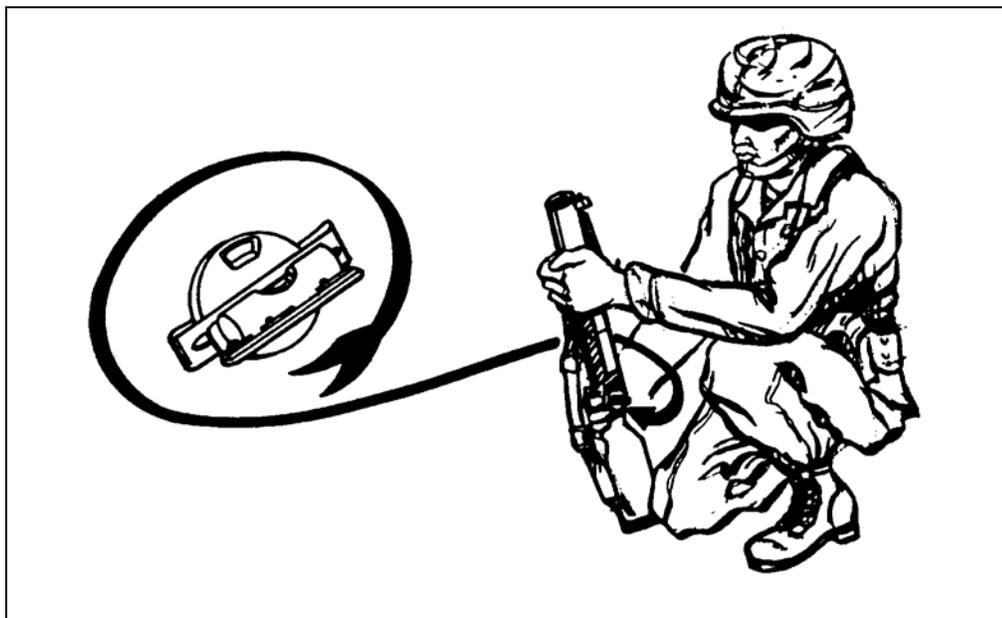

Figure A-23. Using the M5 rifle grenade sight.
b. **Sighting System.** The standard sight assembly is graduated up to 375 meters, which corresponds to a 32-degree elevation. However, you can raise the rear sight carrier to increase elevation to up to 40 degrees. The rear sight cannot be used at greater elevations. The most accurate way to fire the M79 grenade launcher in the indirect fire mode is to attach an M15 rifle grenade sight to the weapon's stock (Figure A-23). This sight consists of a mounting scale plate and sight bar assembly.